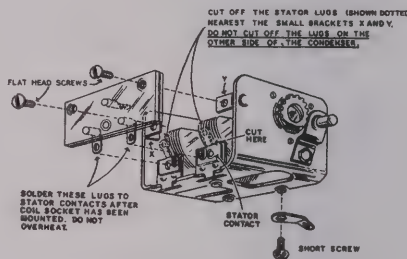

Figure 3
- (✓) Study Figure 3 and cut off the two stator lugs indicated. These lugs (shown dotted) are nearest the small brackets which are riveted to the condenser frame.
- (✓) Solder the two outside coil socket lugs to the nearby stator contact as shown in Figure 3.
- (✓) Mount the coil socket on the tuning condenser frame as shown in Figure 3. Use two 6-32 flat head screws.
- (✓) Place a length of bare wire between solder lug and unused coil socket prong (S).
- (✓) Mount another solder lug on the tuning condenser frame as shown in Figure 3. Use a short 6-32 screw.